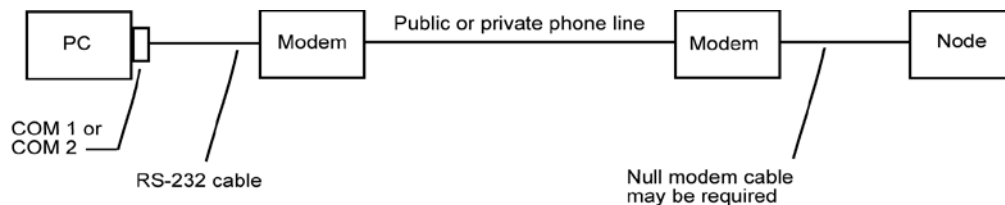

Figure 5-2. PC Connected to Node from Remote Location
- A remote connection can be made over a phone line (Figure 5-2).